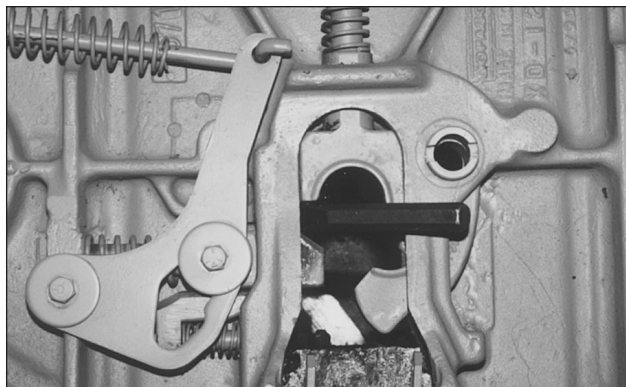

FIGURE 11
2. Install green spring (7) through the large hole in the throat of the casting.
5. Push the sliding lock forward and insert a 1" spacer between the lock and the plunger (see Figure 11).
7. Place the hinged lock into position (see Figure 11). Drive the lock pin (25) through the top plate and pin hole of the hinged lock. Secure with roll pin (23).